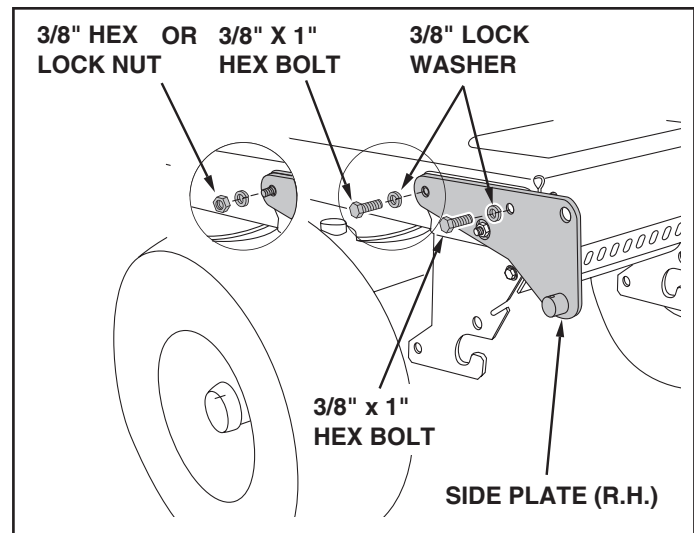

FIGURE 2
- Attach the front of the side plate to the threaded hole in the tractor frame using a 3/8" x 1" hex bolt and a 3/8" lock washer. Attach the rear of the R.H. side plate to the tractor using either a 3/8" x 1" hex bolt and lock washer or a 3/8" hex lock nut and lock washer. Repeat for the L.H. side. See figure 2.